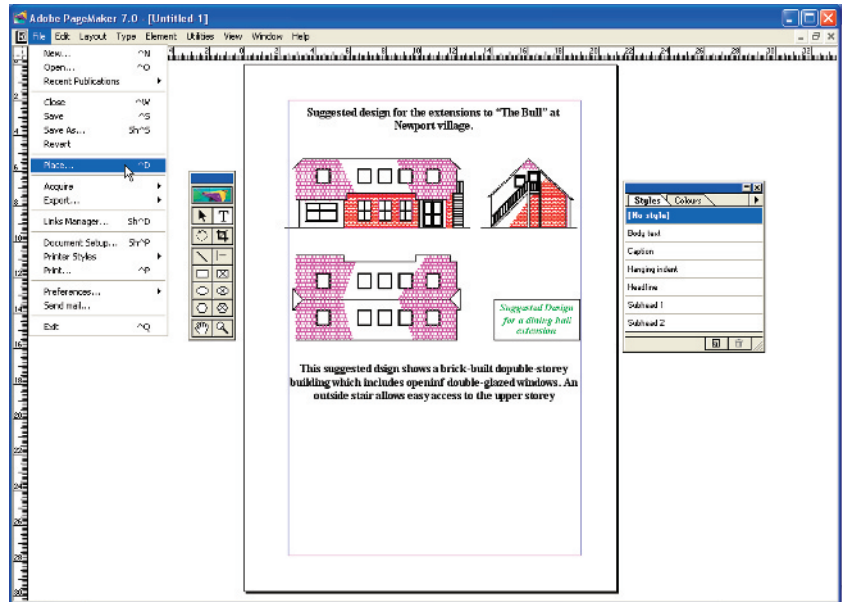

Fig. 10.5 An EPS file placed in position in a PageMaker document
Second example – EPS file (Fig. 10.5)
2. Open a desktop publishing application. That shown in Fig. 10.5 is **PageMaker**.
named will be **building.eps**. *Double-click* that file name and an icon appears, the placing of which determines the position of the *.eps file drawing in the PageMaker document (Fig. 10.5).